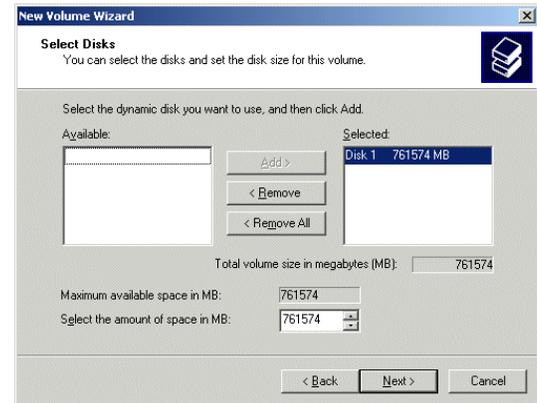

Figure 2-25
- 25) Click the **Next** button to be presented with the **Select Disk** screen. Ensure that the **Disk 1** item is selected and appears in the **Selected** column on the right-hand side of the dialog as shown in Figure 2-25.